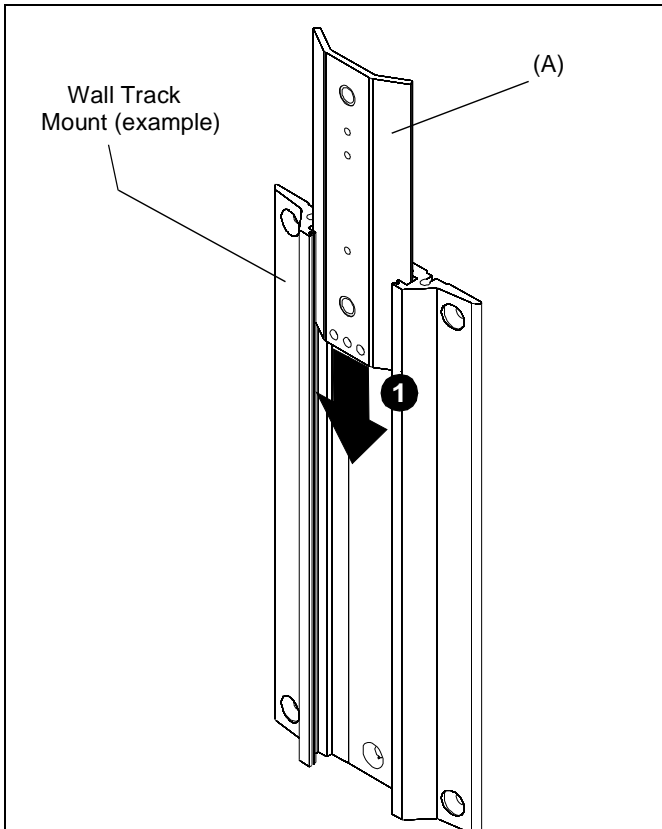

Figure 1
1. Slide OFB207 bracket (A) into wall track mount. (See Figure 1)